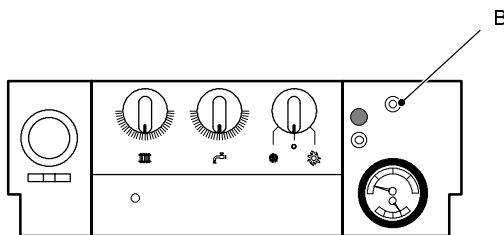

fig. 81
**The safety thermostat does not re-set automatically. To reset, it is necessary to push the button B with the help of a tool on the instrument panel (fig. 81).**